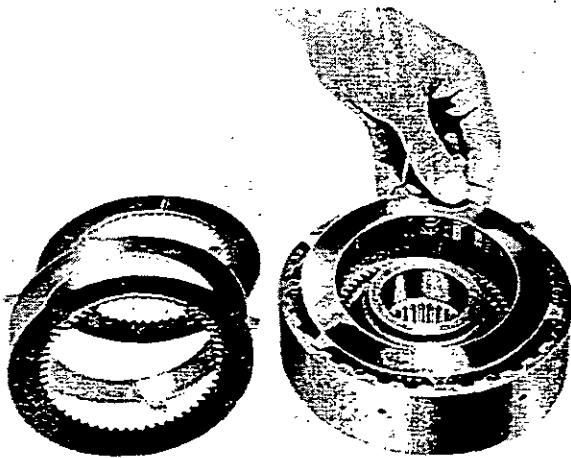

FIG. 23
- Fig 23. Refit the three friction plates (48) and the remaining two interplates alternately, locating the lugs on each interplate one spline further to the right of one previously fitted.